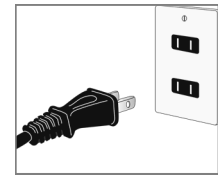

Figure 3. Power Cord
- If the control•r™ Wi-Fi Module or MC-195T-US timer/controller are not installed, temporary pump operation can be initiated for 60 seconds by resetting power to the tankless water heater (unplug the power cord from the wall outlet, and then plug the power cord back into the wall outlet) (Figure 3). This test is helpful if the internet is not yet available to pair with the control•r™ Wi-Fi Module.